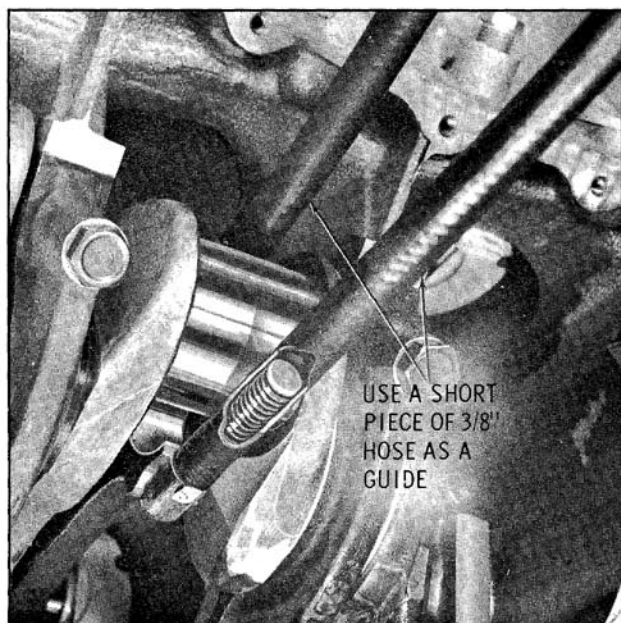

Fig. 3-76 Connecting Rod Bolt Guides
5. Install guide hose over threads of rod bolts. This is to prevent damage to bearing journal and rod bolt threads. (Fig. 3-76)
rod bolt threads. (Fig. 3-76)